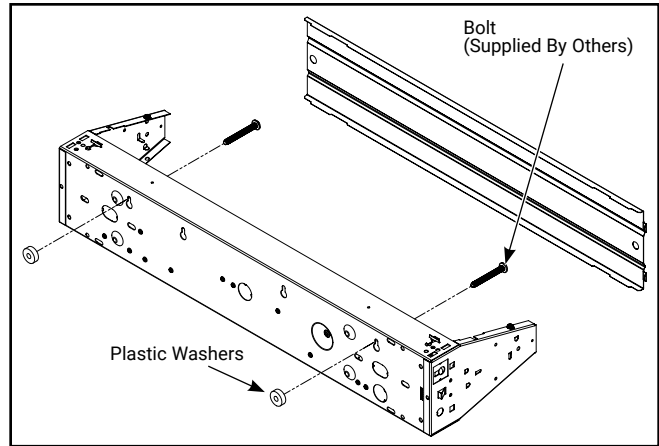

Figure 3. Mount To Wall
1. Remove channel cover by turning channel fastener ¼ turn (Figure 3).